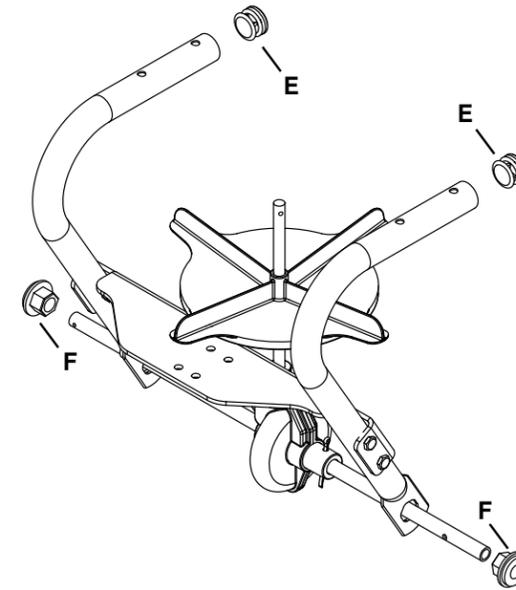

Figure 4
STEP 4 (SEE FIGURE 4): Insert a tube plug (E) into the end of each frame tube. Slide a flange bearing (F) over each end of the axle and secure into the frame tubes. Make sure the gearbox is centered and the impeller shaft is vertical.